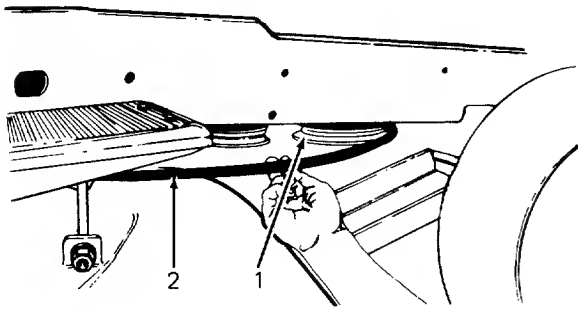

Figure 48
7. Slip drive belt over electric PTO pulley on tractor. Refer to Figure 48.